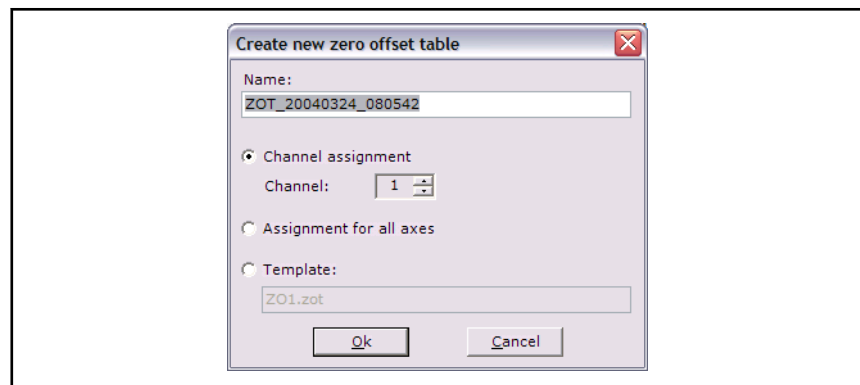

Fig. 6-20: Dialog to create a new zero offset table
A dialog (see fig. 6-20 "Dialog to create a new zero offset table" on page 154) opens to create a new zero offset table (continue with point 3).
A dialog opens to create a new zero offset table (see fig. 6-20 "Dialog to create a new zero offset table" on page 154).
1. Open the **New** dialog (see fig. 6-20 "Dialog to create a new zero offset table" on page 154) as described above.